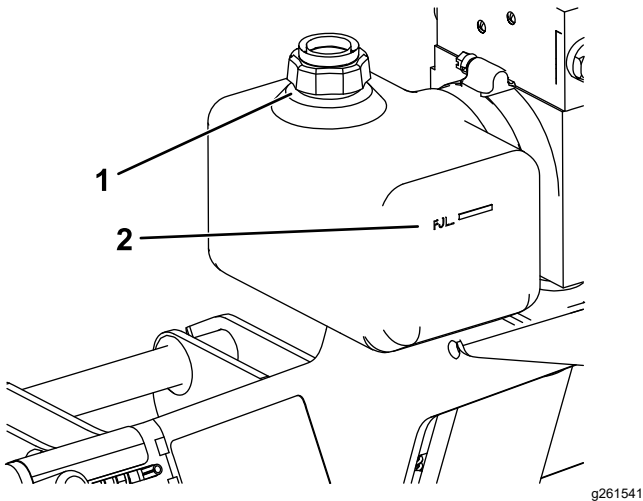

Figure 27
2. Clean the area around the fill cap (Figure 27).
3. Remove the fill cap from the hydraulic reservoir (Figure 27).
4. Slowly fill the reservoir with BOSS high-performance hydraulic fluid to the fill line on the outside of the tank (Figure 27).